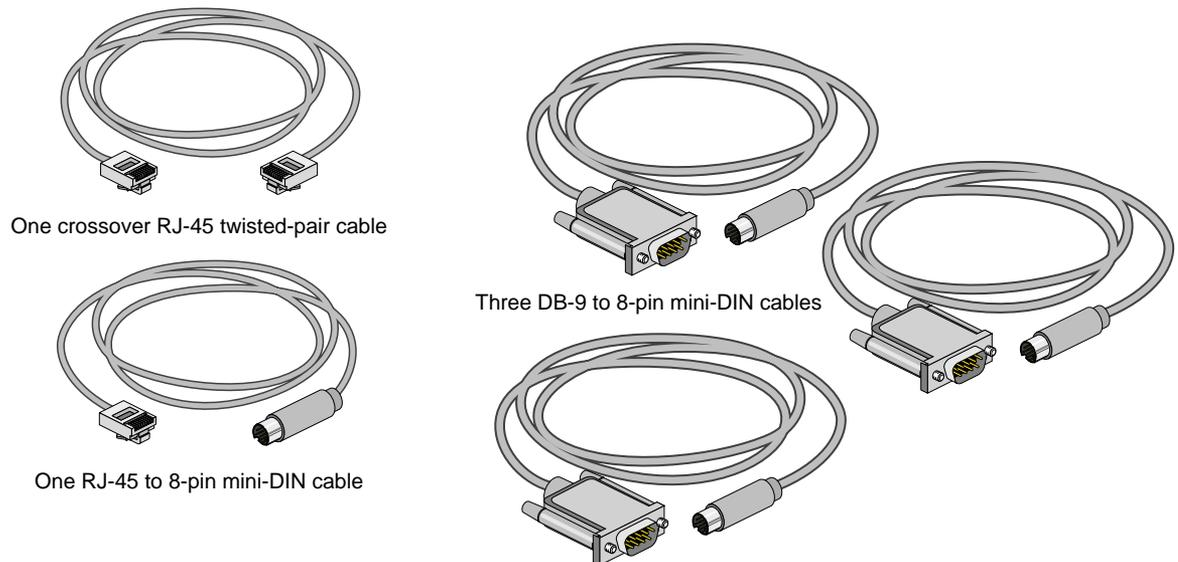

Figure 2-42 Items Needed to Connect SGIconsole to a Silicon Graphics Onyx2 Rackmount Graphics System
3. Make sure that you have the following items as shown in Figure 2-42: